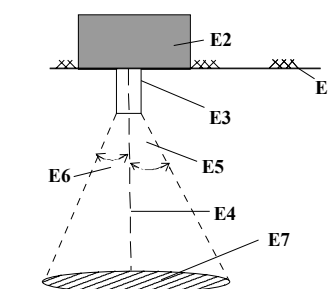

Figure 5: *Collection cone when using the fibre rod with a plane surface*
- The collection cone shown in figure 5 results when using the white-painted optical fibre rod with a plane light-sensitive surface (standard optical fibre rod).